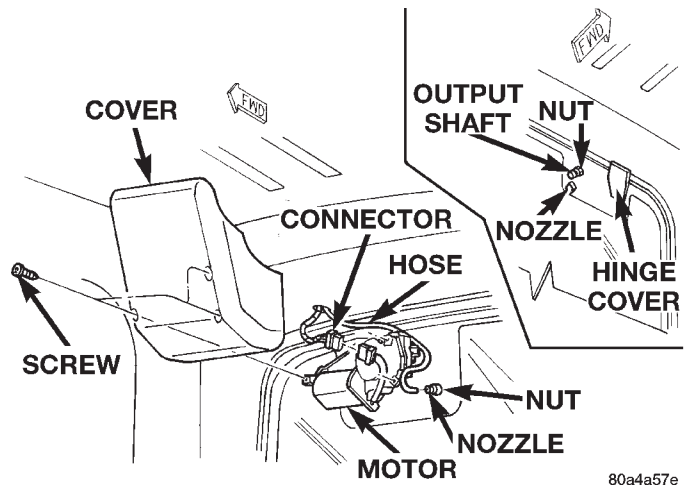

Fig. 12 Rear Wiper and Washer System
(1) Disconnect and isolate the battery negative cable.
(2) From the outside of the liftglass, remove the rear wiper arm as described in this group.
(3) From the outside of the liftglass, remove the rear wiper motor output shaft nut and bezel unit (Fig. 12).